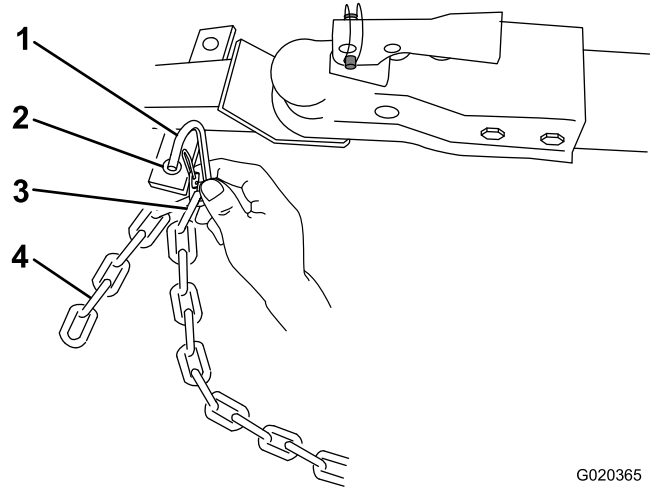

Figure 28
3. Connect each length of chain to the safety chain mounting point on the tow vehicle with the connecting links (Figure 28).
Note: For models 68007C and 68008C, connect the connecting links to the appropriate links in the safety chain (Figure 28). If the excess chain hangs too low and touches the ground, connect it again to the connecting link to raise it away from the ground.